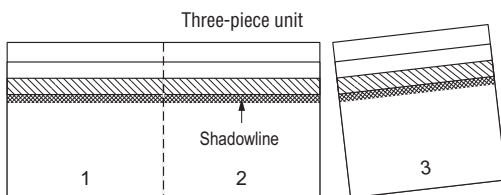

Figure 12-18: Separate to make 3 cap shingles.
2. Install caps beginning at the bottom of a hip or at either end of a ridge. Apply a starter piece that has the bottom 5" (5⁵/₈" for metric) removed (Figure 12-18). Fasten the starter with two nails located about 3" from the rake edge, and 1" in from each side edge. Make sure fasteners used to apply caps penetrate at least ³/₄" into or through the decking.
3. Apply a full cap shingle over the starter (Figure 12-18), and place fasteners at $5\frac{5}{8}$ " ($6\frac{1}{4}$ " for metric) up from the exposed bottom edge and 1" in from each side. Nails must not be exposed on the finished roof. All nail heads must be driven straight and must not cut into the shingle surface.
Use Cedar Crest accessory shingles to cover hips and ridges. Carefully separate the three-piece units prior to application, by first folding along the pre-cut lines and then detaching the pieces (see Figure 12-18). No cutting is necessary. There are 30 individual shingles (10 three-piece units) in each bundle. One bundle will cover 20 linear feet. Each 12" x 12" shingle has a shadowline that is a design feature which is visible when applied properly. To prevent shingle damage during application, they must be sufficiently warm to allow proper forming.